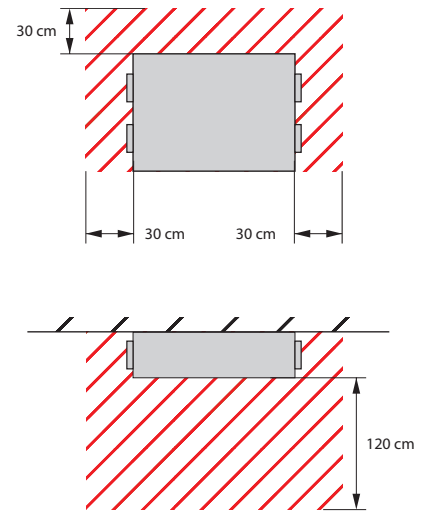

Fig. 6. Minimum space for maintenance
- Only these units can be mounted on the ceiling or wall and only in such positions as specified in Fig. 6.